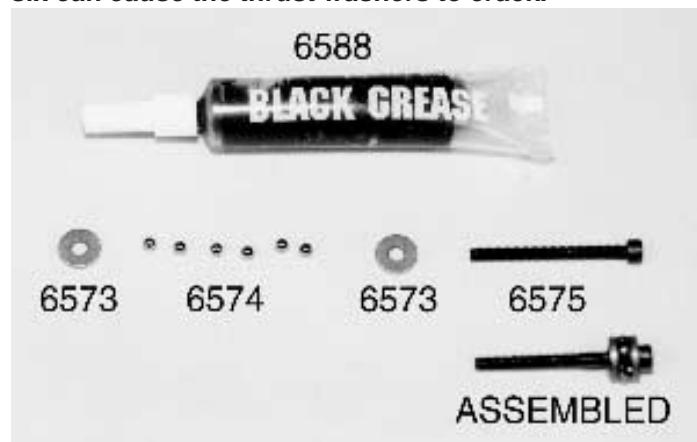

Fig. 50
□ **Fig. 50** (1) In bag A you will also find a little bag containing the six smaller #6574 5/64" precision thrust balls. In another little bag you will find the #6575 2-56 diff thrust bolt and the two #6573 (special hardened steel washers) diff thrust washers. **WARNING! NEVER replace your thrust balls with any other balls except our #6574 thrust balls. The tolerances we use are tighter than most other companys'. Due to these tight tolerances and careful packaging of matched balls, when replacing lost or worn 5/64" thrust balls, you MUST replace ALL 5/64" balls at**